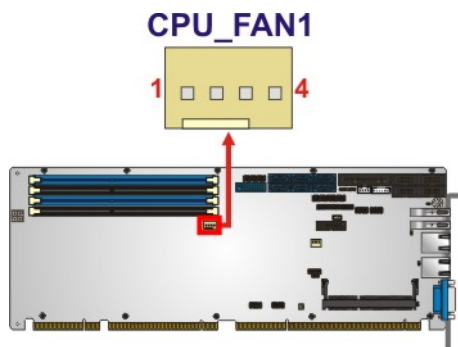

Figure 3-9: CPU Fan Connector Location
- CN Location:** See **Figure 3-9**